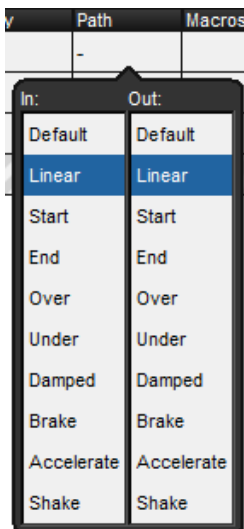

Figure 13.3. Selecting a Path in a Cuelist Window
2. Choose a path from the displayed list; see *Figure 13.3, “Selecting a Path in a Cuelist Window”*.